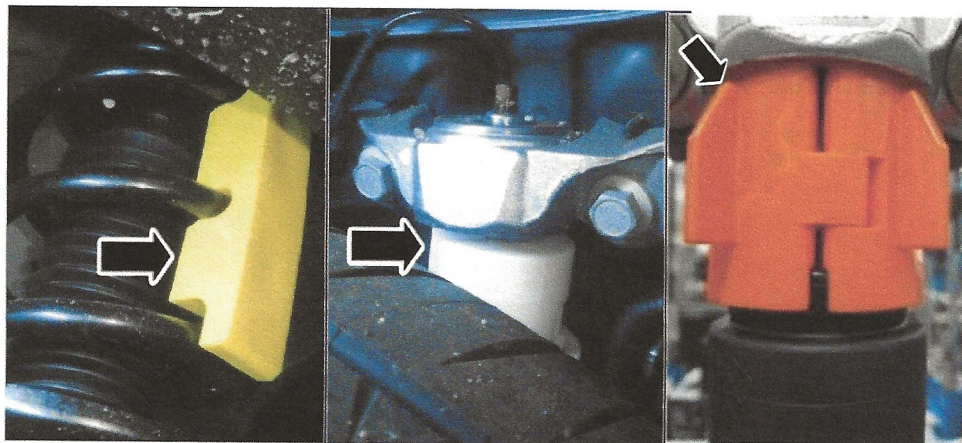

Figure 1
- ☐ If equipped, remove and store the yellow or orange spring spacers from RH and LH front coil springs in the red plastic bag included with the Ford Performance customer packet (GT350-R/GT500/Mach1). (See Figure 1)
- ☐ If equipped, remove and store the white or orange shock spacer blocks from RH and LH rear shock rods in the red plastic bag included with the Ford Performance customer packet (GT350-R/GT500/Mach1). (See Figure 1)